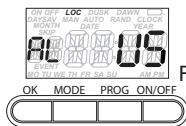

Fig. 4
7. To accept **AUTO** Daylight Saving Time adjustment press **OK** and proceed to step 8. To disable Daylight Saving Adjustment (For example, in Arizona or Hawaii) turn knob to display flashing **MAN** then press **OK**. **LOC** will show on top of display. (Fig. 4) Proceed to step 13.
8. Steps 8-10 allow you to change the Daylight Saving Time (DST) adjustment dates. The timer is factory-set to the US Daylight Saving rules effective from the year 2007 forward. The display will show **ON DAY SAV**, flashing **03**, and **WK 02**, meaning timer will adjust forward on 2nd Sunday in March. Proceed to step 9 if you need to change the factory settings or press **OK** repeatedly to accept the factory settings until **LOC** appears on top of display and proceed to step 13. (Fig. 4)